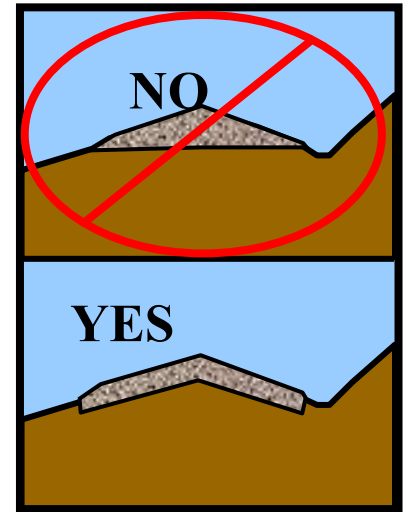

Figure 2 - Road base preparation
4. Establish proper drainage in existing base (figure 2). Recommended crown or cross-slope is $\frac{1}{2}$ to $\frac{3}{4}$ inch per horizontal foot (4% - 6% cross slope). Proper shape may be a flat “A” crown profile, an in-slope or out-slope. If exposed bedrock or insufficient material prevents proper shaping of the road base, additional base material should be added before aggregate placement.
Tarps are to be used to cover 100% of the load’s exposed surface from the time of loading until immediately before dumping. An un-compacted uniform depth of 6 to 8 inches of DSA is to be used to establish the driving surface (figure 3). Placement is to be in a single lift and single pass. The preferred method of application is through a track mounted paver and use of a motor paver is required on jobs over 500 tons. Set the paver adjustments on application thickness and width so it is unnecessary to use a grader. The required crown or side slope is $\frac{1}{2}$ ” to $\frac{3}{4}$ ” rise per horizontal foot. This slope is to be achieved by properly preparing base and placing aggregate in a uniform lift (figure 2). When the paver is applying aggregate, care should be taken to keep the paver at or near capacity at all times. If the total tonnage is less than 500 tons, the DSA must be paver placed or placed by tailgating and groomed with a road grader equipped with a carbide tipped grader blade.